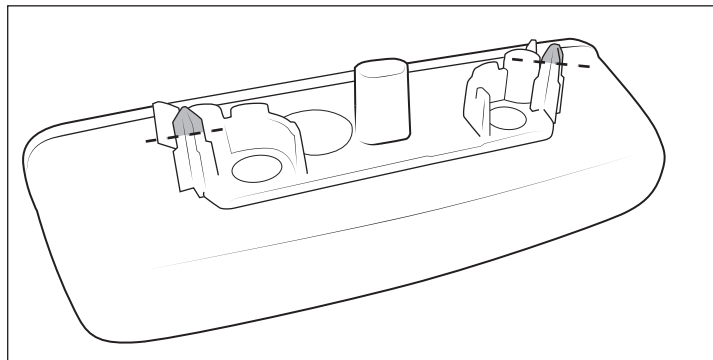

Figure 28
- A. Trim the alignment pins from the factory third brake light flush with the mounting holes (fig. 28).